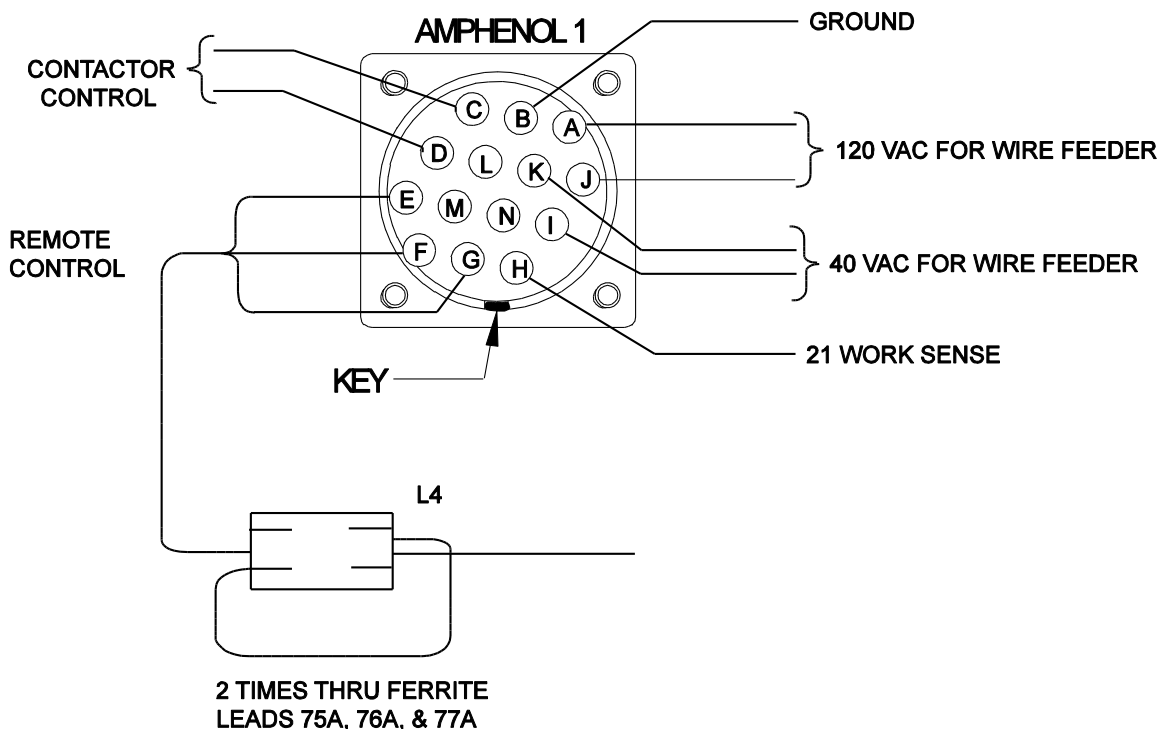

Figure F.13
- 4) Disconnect and isolate GND-5 lead from the bottom ground screw inside the left case front, and #5A from the neutral stud. See control Inner-Connection diagram. **SEE FIGURE F.13.**